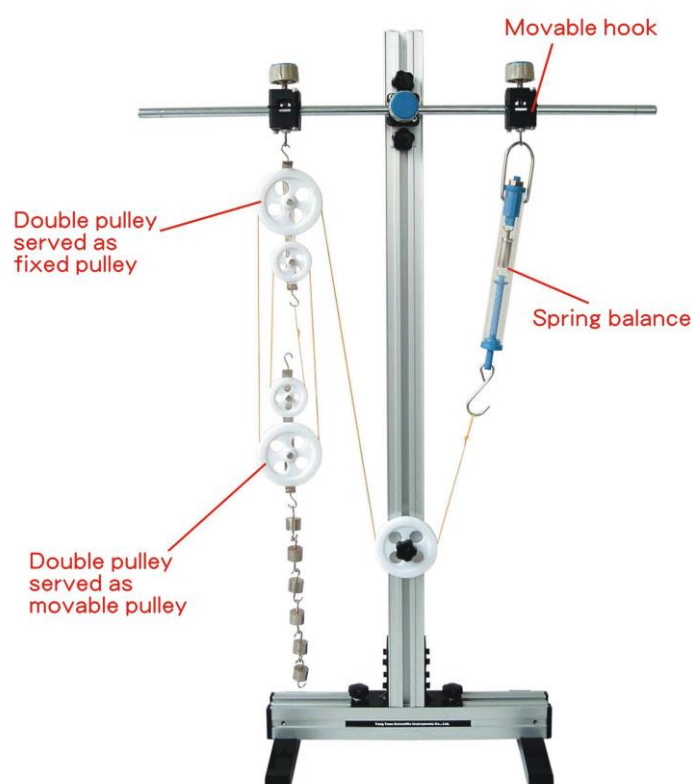

Figure 10
1. The experimental setup is shown in **Figure 10**.